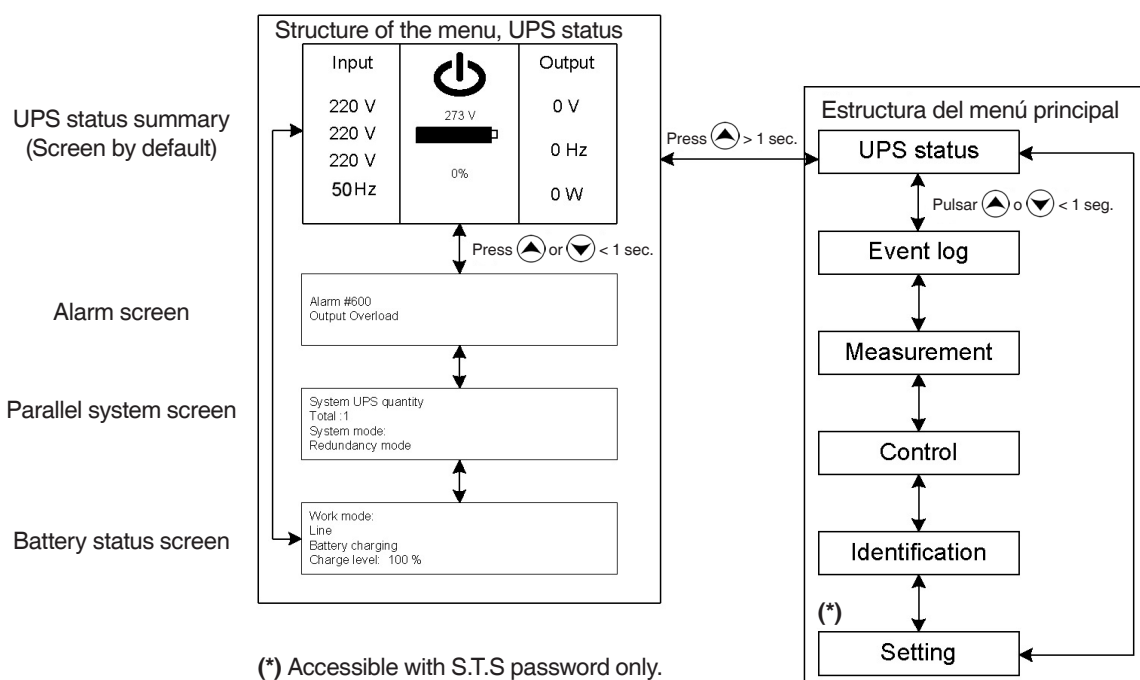

Fig. 30. Main screen structure.
- From the same main screen, when pressing the key \triangle for more than 1 sec., the structure of the main menu will be displayed (see figure 30).